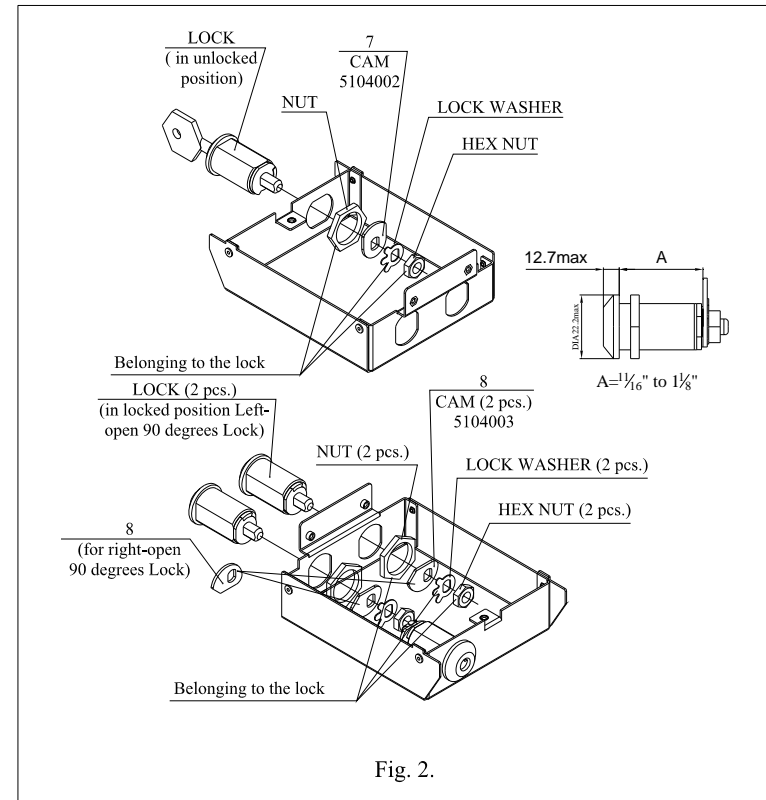

Fig. 2.
5. Mount the locks and the cams #7 and #8 into faceplate #5 as shown in Fig.2.